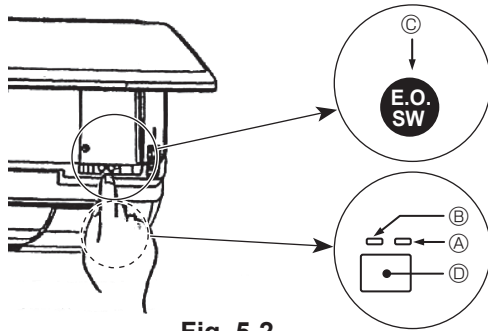

Fig. 5-2
- To stop operation, press the button (D) or the button (C) for more than 2 seconds.
[Fig. 5-2] (A) DEFROST/STAND BY lamp (Orange)
- (B) Operation lamp (Green)
- (C) Emergency operation switch (cooling/heating)
- (D) Receiver
- Check "COOL/HEAT" with the operation monitor display. (The orange lamp (A) follows this monitor display for 5 seconds after pressing the emergency operation switch.)